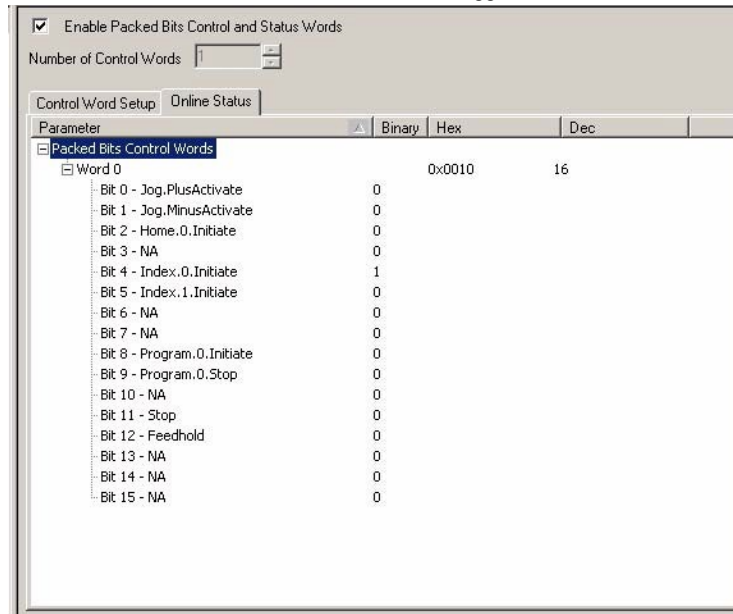

Figure 123: Packed Bits Control Words View
**Add Button:** Using the Add Button method, the user navigates the parameter tree to find the desired parameter they wish to control. Once the desired parameter is found, the user left clicks on the parameter to highlight it. Then the user clicks on the desired bit of the Control Word to highlight it. Once both are highlighted, the **Add** button on the right side of the view (see Figure 123 above) should become available. Simply click the **Add** button and the highlighted parameter will be assigned to the highlighted bit on the Control Word.